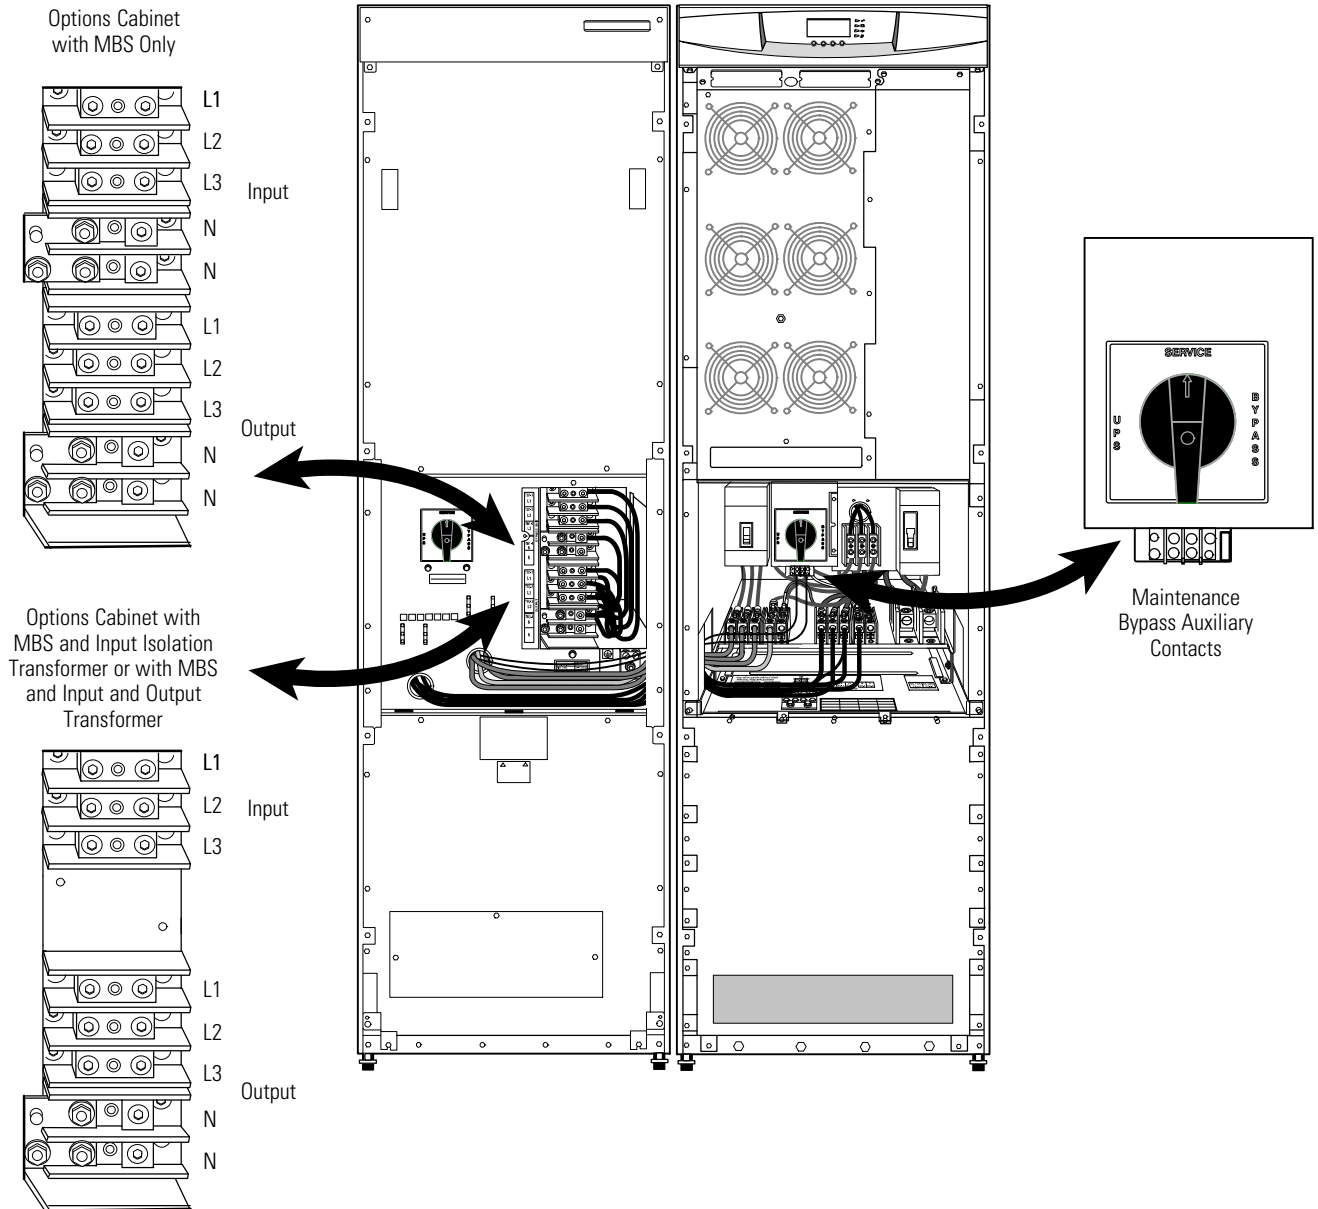

Figure 20. Options Cabinet with MBS Wiring
For a detailed view of the Options Cabinet terminal block, see Figure 20.
6. Route the maintenance bypass auxiliary wiring through the knockouts to the UPS and wire to the contacts below the MBS (see Figure 20).